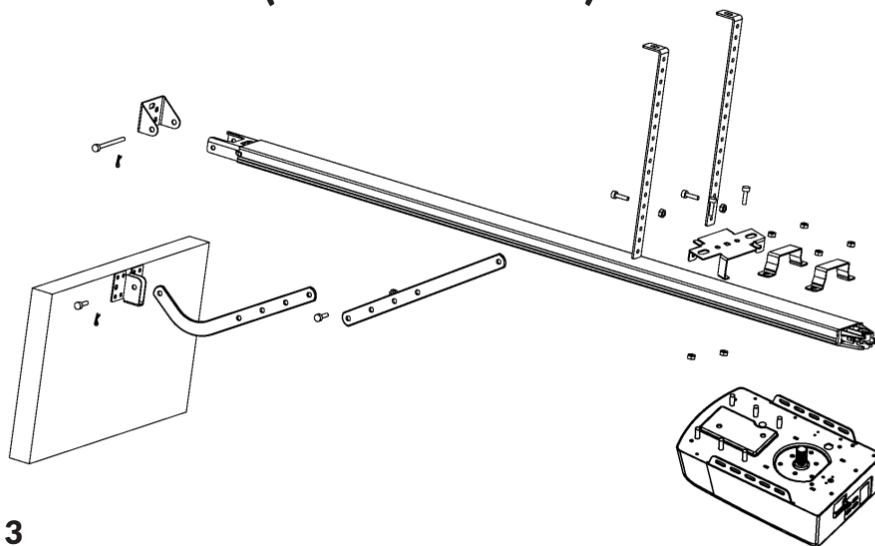
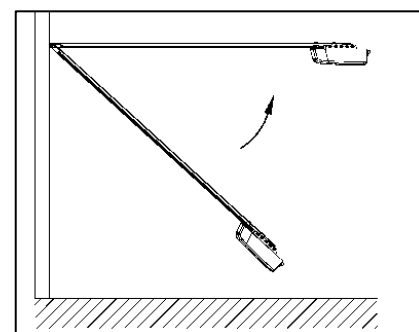

Figure 3
Figure 4
STEP1 (Figure.3)
STEP2 (Figure.3)
STEP3 (Figure.3, Figure.4)
STEP4 (Figure.3, Figure.5)